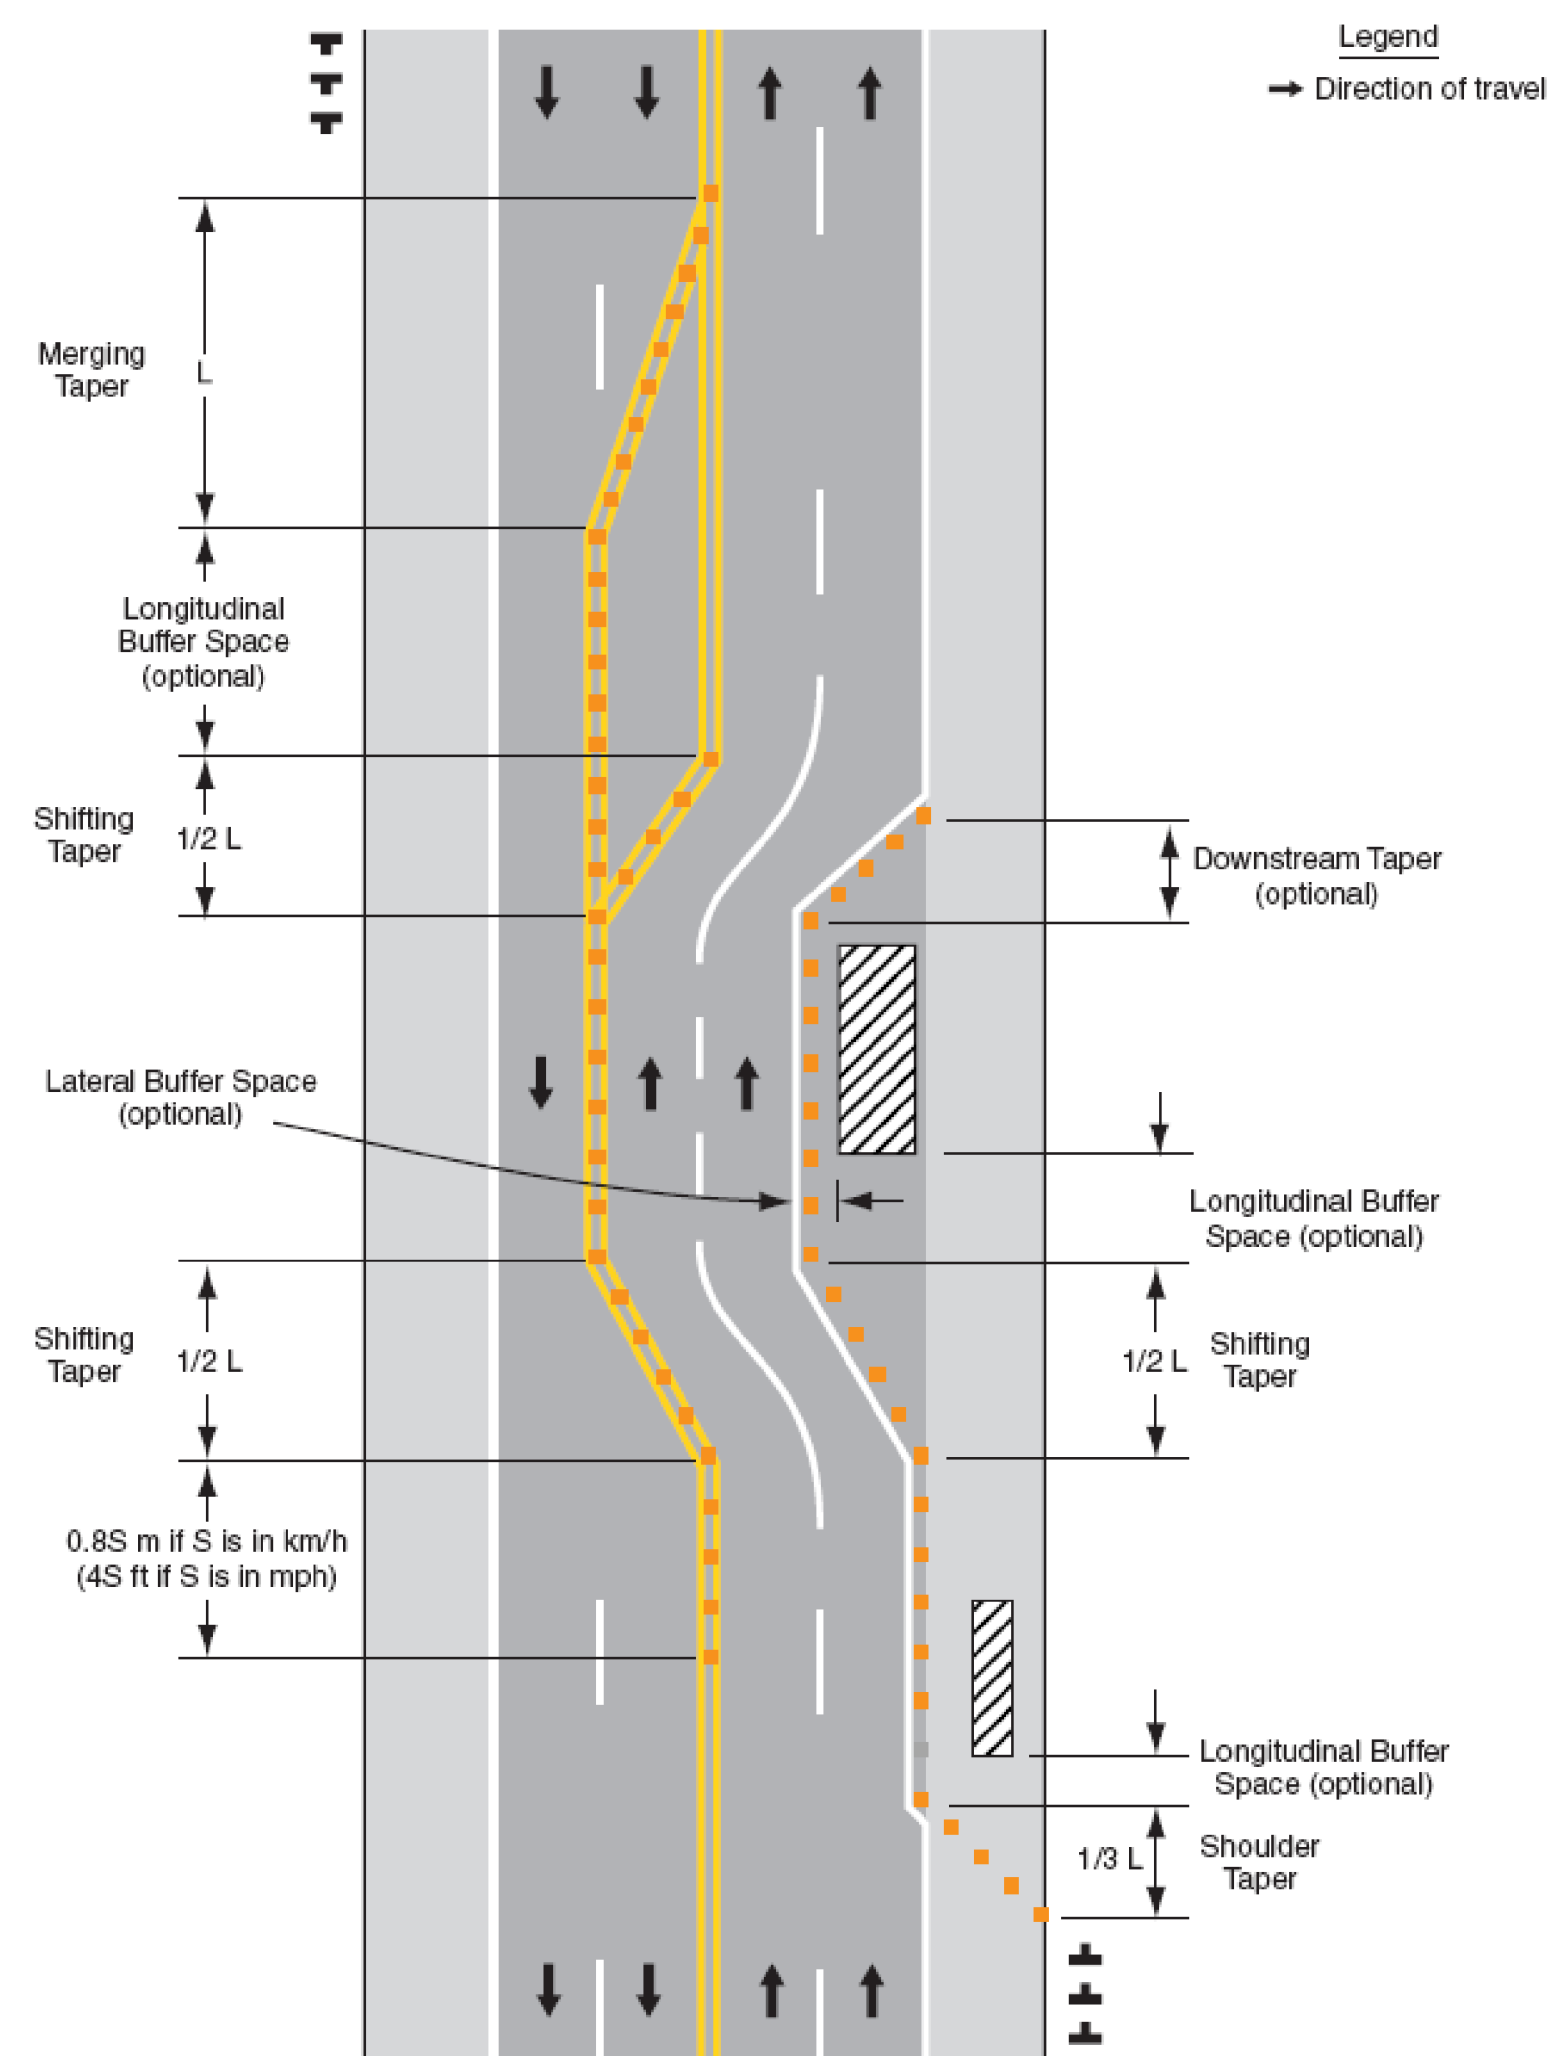

Figure 6H-1. Work Beyond the Shoulder (TA-1)
** Distances are shown in meters (feet). The column headings A, B, and C are the dimensions shown in Figures 6H-1 through 6H-46. The A dimension is the distance from the transition or point of restriction to the first sign. The B dimension is the distance between the first and second signs. The C dimension is the distance between the second and third signs. (The third sign is the first one in a three-sign series encountered by a driver approaching a TTC zone.)